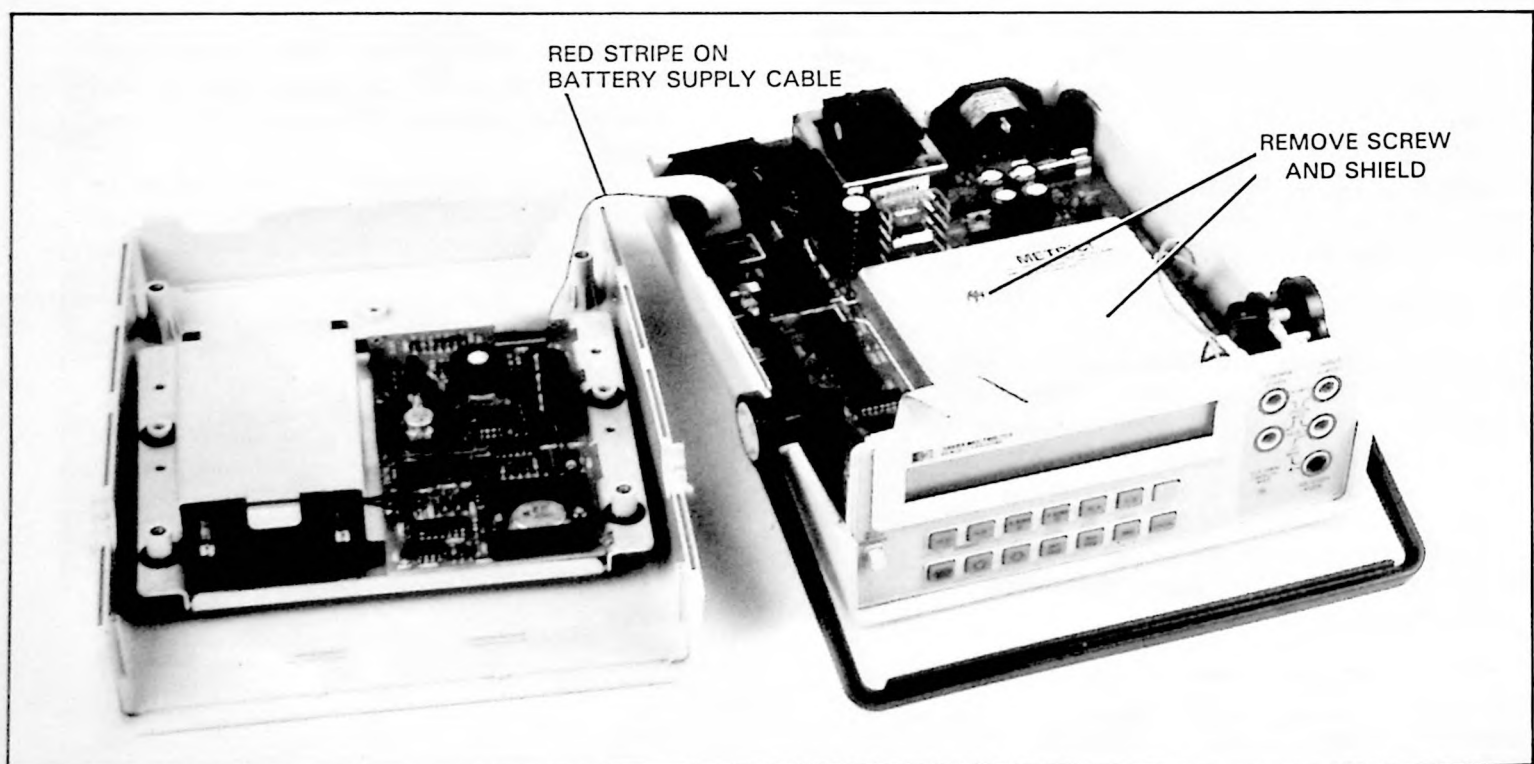

Figure 2-3. Top Cover Removed (Model 3468A shown)
d. If the 3468A/B has the optional battery circuitry, lift the top cover assembly up approximately one inch and then place it to the left of the instrument (in an inverted position), as shown in Figure 2-3. Locate the battery cable which connects the battery printed circuit board to the main printed circuit board. Note that the cable is plugged into the main printed circuit board with the red stripe on the cable toward the outside of the instrument case.
a. Refer to Figure 2-3 and locate the inner shield on the 3468A/B's main printed circuit board. Loosen and remove the mounting screw on the shield and then remove the shield, as shown in Figure 2-3.
1. Obtain the top cover assembly (which was previously removed in paragraph 2-9) and set it next to the bottom assembly, as shown in Figure 2-3.